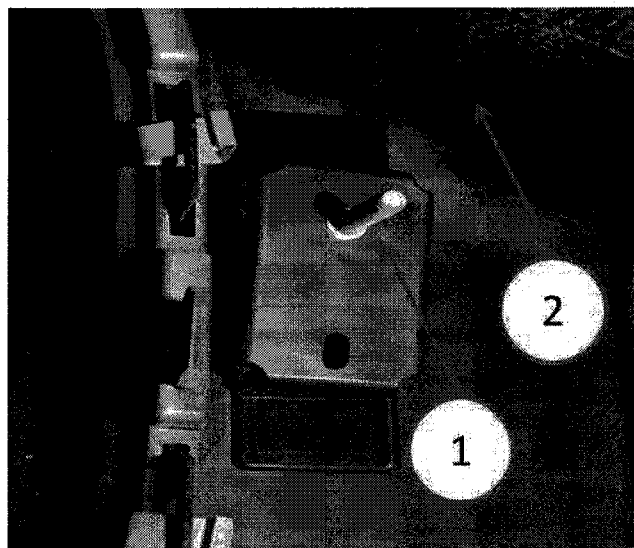
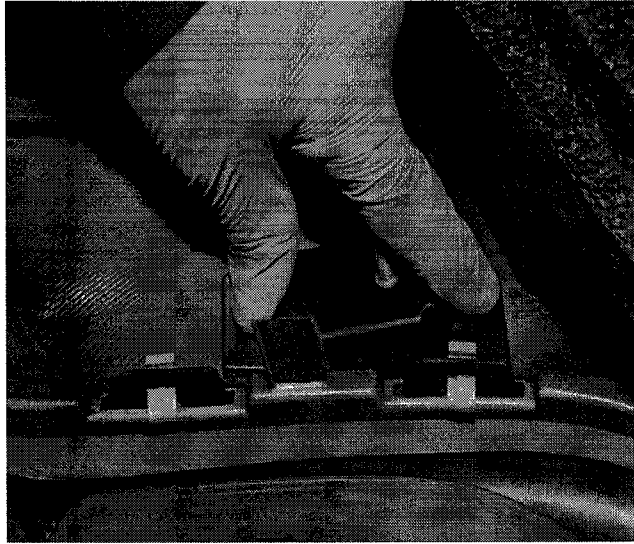

Fig. 11 Right Bracket Correct Installation
Fig. 12 Bracket Installation
19. Orientate sensor bracket with fastening bolt up relative to top of fascia (Fig. 11).
20. Align the bottom sensor mounting tab with the location marker. Align sensor bracket vertically with the edge of fascia and firmly press into place (Fig. 11) and (Fig. 12). The bolt on the bracket is toward the top of the fascia, toward the foam.